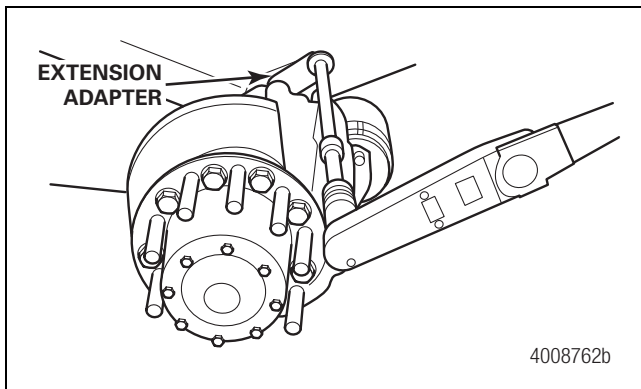

Figure 9
2. Align the caliper carrier bolt holes. Assemble the caliper to the torque plate using the carrier bolts and washers. Using a 30 mm socket wrench or extension adapter (Meritor tool number MST2255001) tighten the six carrier bolts to 350-450 lb-ft (474-610 N·m). Refer to the torque table at the end of this bulletin for the correct torque wrench setting when using the extension adapter. Figure 9. **⚠**